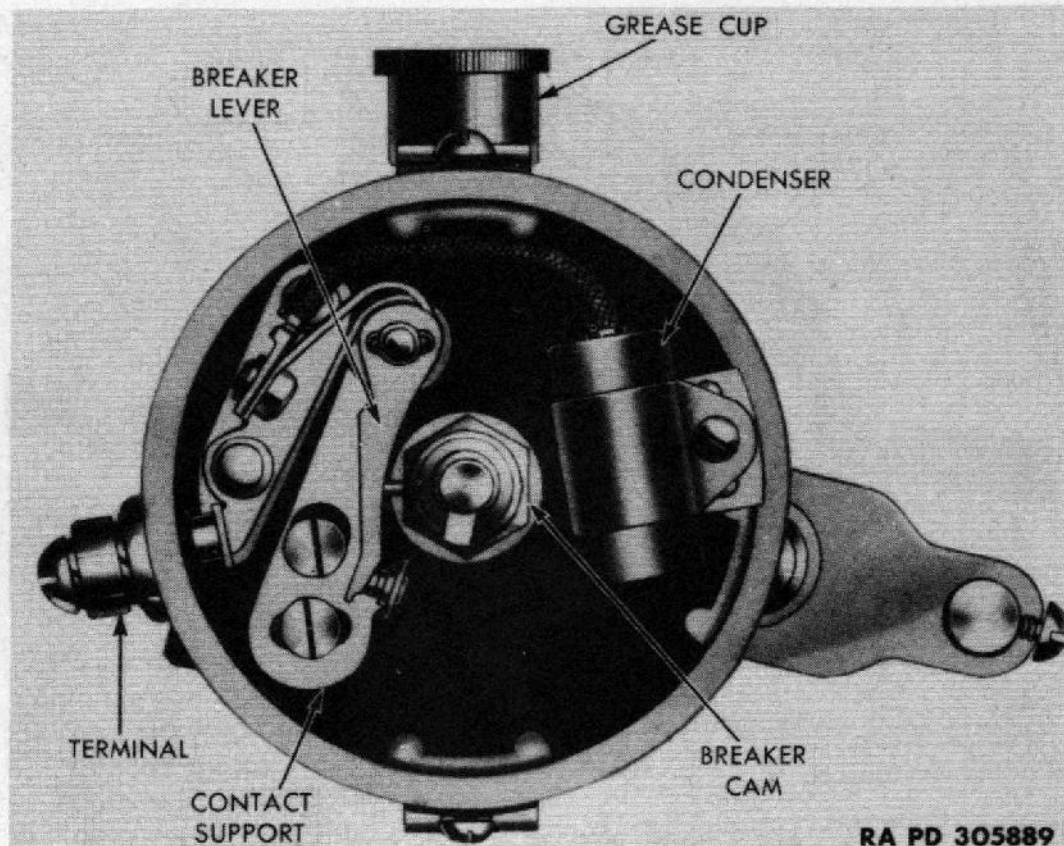

Figure 67—Top View of Distributor
a. Description. The condenser is mounted in the body of the distributor and is connected across the distributor points (fig. 67). This unit protects the breaker contacts, and also serves to intensify the spark across the spark plug gap to insure the firing of the gas mixture in the cylinders.